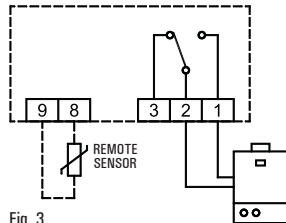
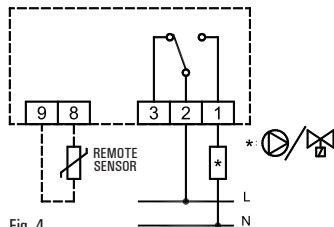

Fig. 3.
Fig. 4.
3. Make the electrical connections following the connection diagram in Fig. 3 or Fig. 4.
Fit the batteries into the compartment provided, observing proper polarity (Fig. 4). Reset the device by inserting a pointed implement through the hole provided (L on Fig. 4); DO NOT USE NEEDLES.
‘OK’: Programming/Time/Confirm (I on Fig. 4);
‘▲’: Forward (G on Fig. 4);
‘▼’: Back (H on Fig. 4);